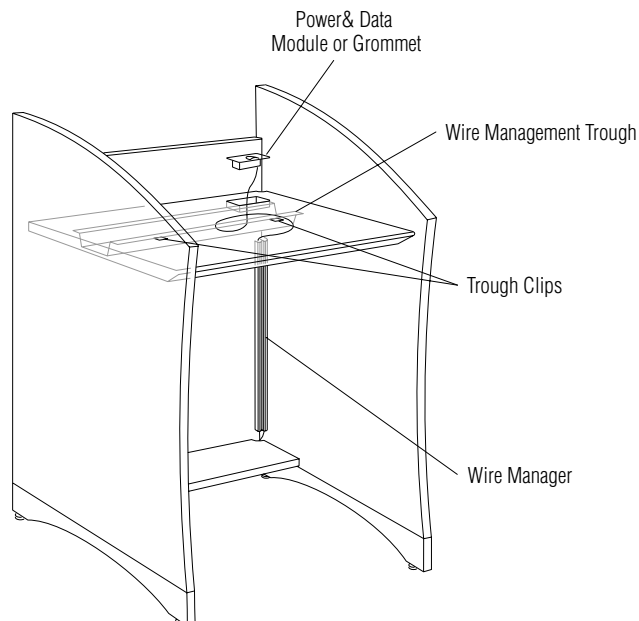

Figure 4
12. Snap the power & data module (or grommet) into place on the top of the worksurface with the electrical cord feeding through grommet opening (Figure 4).
13. Route the module cord (or other electrical cords or data lines) through either end of the wire management trough. If a cord is to be routed the opposite direction that it comes out of the module/grommet, make a 6" loop with the cord to change direction (Figure 4).